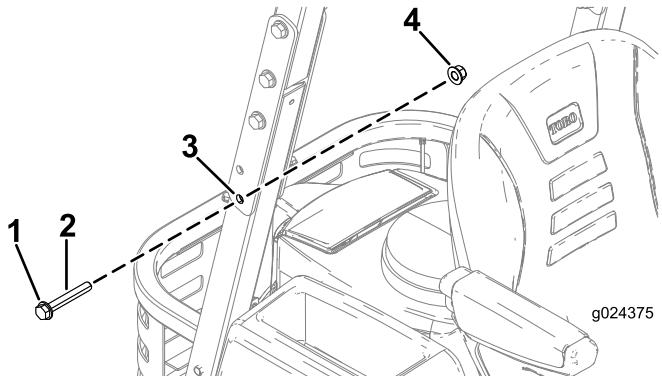

Figure 5
5. Install the removed bolts (1/2 x 3 inches), washers, and nuts into the lowest hole in the ROPS plate (Figure 5).